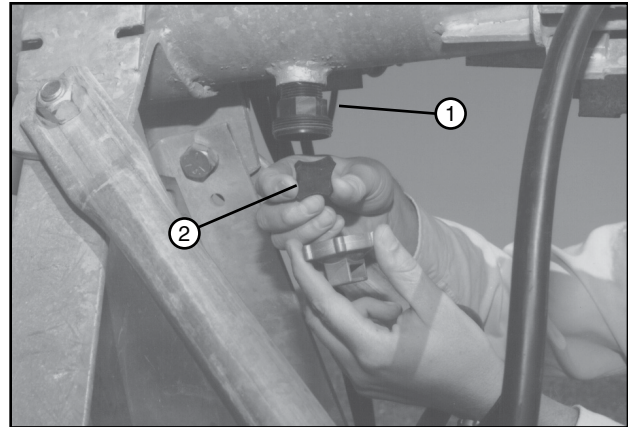

Figure 106-1 1. Pipe Drain
3. Remove the pipe drains at each drive unit tower. Clean sand and foreign particles from these drains. Turn the rubber drain seal over when reinstalling. See Figure 106-1.